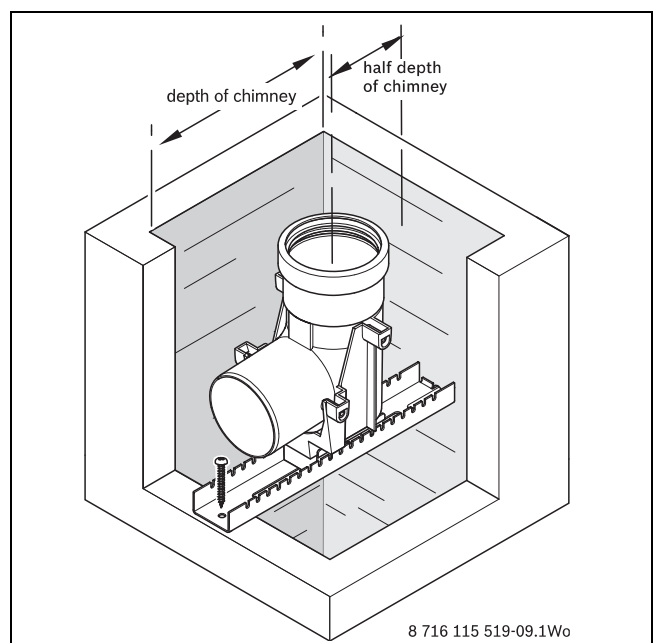

Fig. 10 Placing the elbow assembly into the chimney
- ▶ Secure the assembly with a screw as shown in fig. 10.